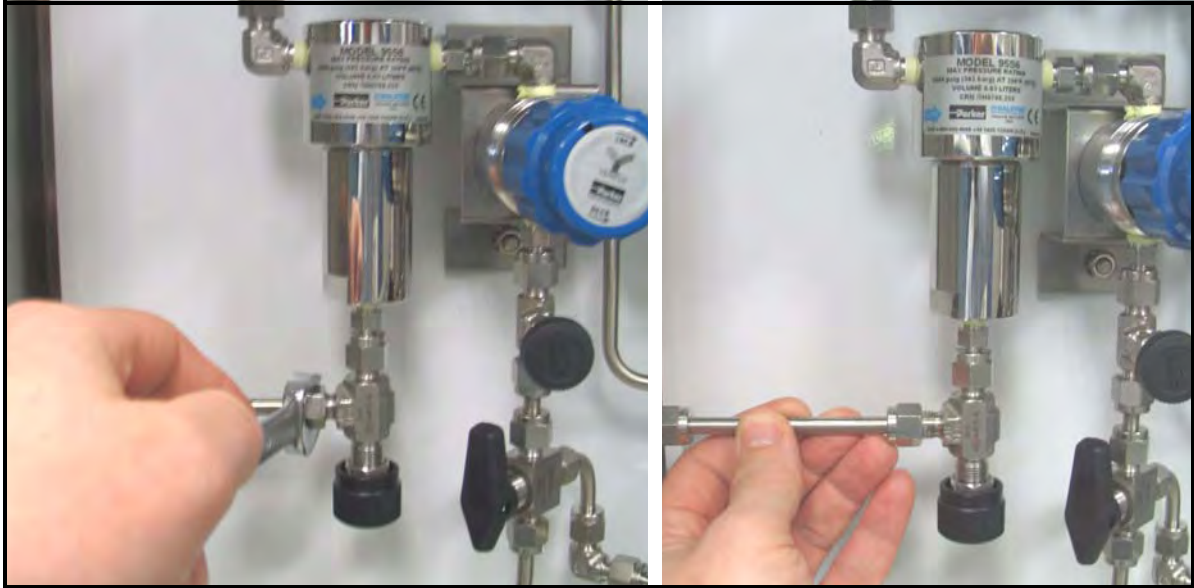

Figure 81: Breaking the Outlet Tubing Connection
3. Break the outlet tubing connection on the by-pass of the coalescer filter and remove the tubing section for clearance (see Figure 81).